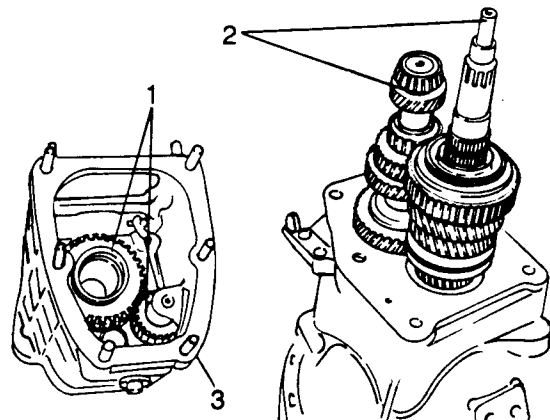

Fig H1.62
(6) Refer to Fig H1.62. On removal of the housing, 1st speed gear (1) will have to be removed at the same time, since this interferes with reverse pinion which also comes out with the housing.
(7) The main shaft and layshaft assemblies (2) will remain positioned on the clutch housing, in their working positions.